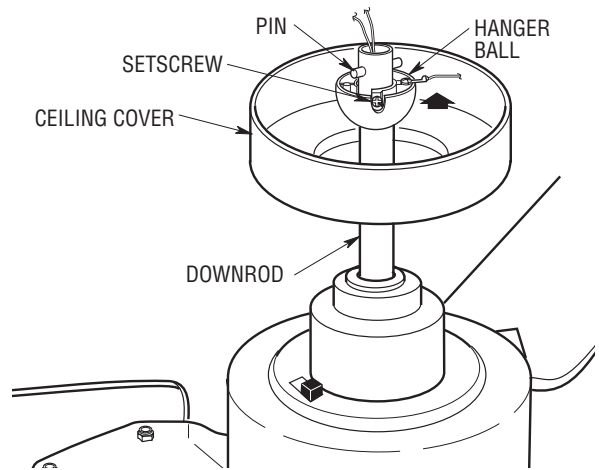

Figure 6
- 9. Reinstall the hanger ball (Figure 6) on the downrod as follows. Route the two 80" motor leads through the hanger ball. Position the pin through the two holes in the downrod and align the hanger ball so the pin is captured in the groove in the top of the hanger ball. Pull the hanger ball up tight against the pin and securely tighten the setscrew in the hanger ball. Loose setscrews could create fan wobble.